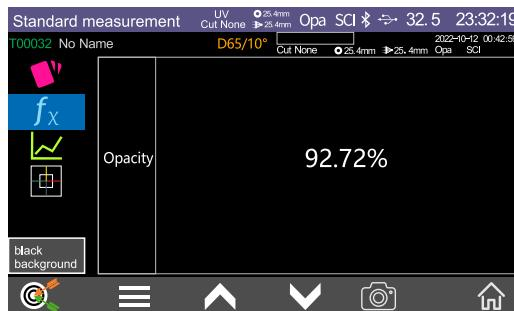

Figure 26 Opacity Measurement interface
7. According to the opacity measurement prompts , perform the operation, and once the opacity measurement completed.the opacity data will displayed in the interface, as shown in Figure 26,27,28